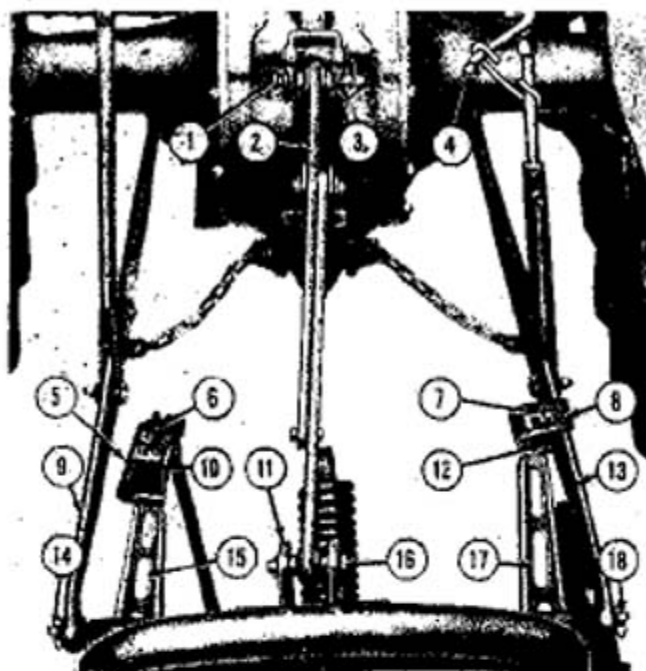
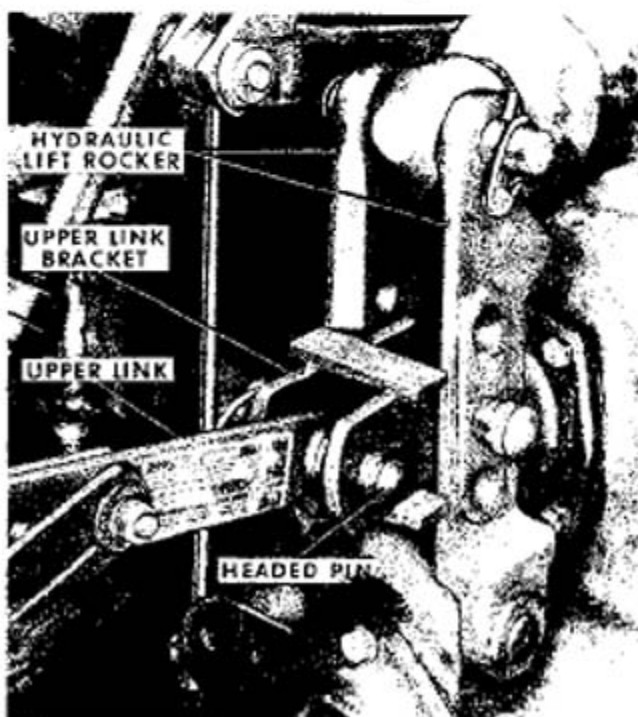
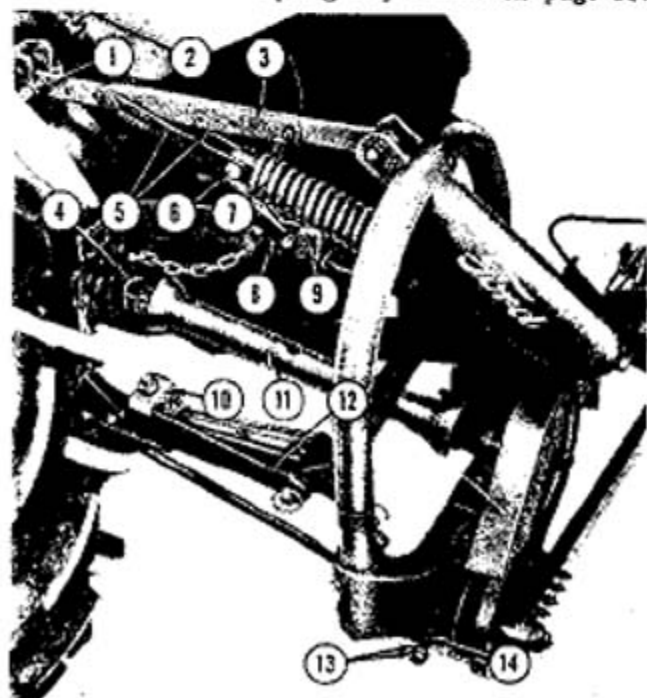
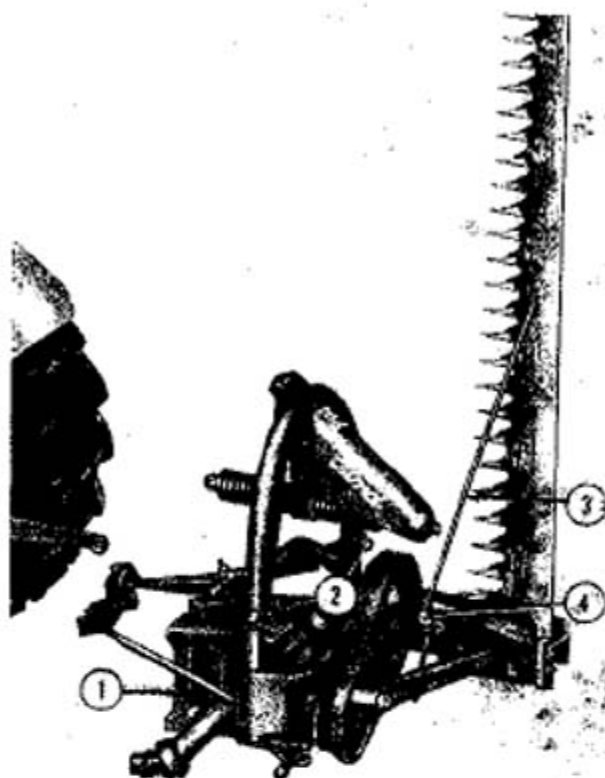

Figure 2
Figure 3
Figure 6
Figure 7
2. Back the tractor into position, as shown in Figure 2, and attach the tractor left lower link (9) to the lift link pin (14). Secure with the tractor link pin.
3. Roll the tractor and/or adjust the leveling crank (4), until the tractor right lower link (13) is aligned with the right link pin (18) and secure with the tractor link pin as shown.
4. Attach the upper link (2) to the lower hole in the tractor rocker arm with the link pin (1).
**NOTE:** When attaching the mower to Ford 4000 or Ford 5000 Tractors, an upper link bracket is required. Attach the upper link bracket to the tractor with the headed pin and 1/4" x 1-1/4" cotter pin provided. See Figure 3.
5. Start the tractor engine and raise the mower frame assembly just off the ground with the tractor hydraulic control lever and shift the mower to the left to attach the left stabilizer (15). Figure 2, when attaching the mower to Ford 2000 and 3000 Tractors. Position the stabilizer guide (5) under the tractor left lift link (9), set the clamp (10) over the top of the link (9) and tighten the nut (6) securely.
7. Shift the mower frame assembly to the right to attach the right stabilizer (17), Figure 2. Position the stabilizer guide (12) under the tractor right lift link (13), set the clamp (8) over the top of the link as shown, and tighten the nut (7) securely.
8. Raise the mower with the tractor hydraulic control lever and attach the mower lift spring (7), Figure 6, to the spring links (5) with the 3/4" x 1-7/8" headed pin (6) and linch pin provided. Lower the mower and turn off the tractor engine. See page 12 for lift spring adjustment.
9. Remove the tractor P.T.O. cup and attach the female splined end of the mower drive shaft (11) to the tractor P.T.O. shaft securing it with the snap coupler (4) on the yoke. See Figure 6.
10. Level the mower with the tractor leveling crank (2), Figure 6, so the lower frame is parallel to the ground. Secure the leveling crank to the lift rod with the leveling crank lock, as shown in Figure 2. Place the transport rod (3), Figure 7, in the clips (2) when not in use.
1. Disengage the tractor P.T.O. and raise the cutter bar by hand to the vertical position shown in Figure 7.
2. Insert the notched flat end of the transport rod (3), Figure 7, into the cutter bar and rotate the rod until the notch locks on the cutter bar. Adjust the position of the cutter bar and the transport rod to align the hooked end of the rod and the eye (4) on the lower frame.
1. Make sure the mower lower frame is parallel to the ground and adjust if necessary, with the tractor leveling crank (2), Figure 7. The tractor right lower link should be approximately three inches lower than the left lower link.
2. Raise the cutter bar to transport position and install the transport rod (3) as shown in Figure 7.
3. Detach the lift spring (7), Figure 6, from the links (5), by removing the pin (6) and pinch pin.
4. Depress the snap coupling (4) and detach the mower drive shaft (11) from the tractor.
5. Shut off the tractor engine, place a cement block (1), Figure 7, or other suitable block under the mower to support the mower in approximately the operating position and lower it onto the block.
6. Detach the right stabilizer (9), Figure 6, and the left stabilizer (10) from the tractor lower links by loosening the nuts on the clamps.
7. Detach the upper link (3) from the tractor hydraulic lift rocker (1), Figure 6.
8. Detach the tractor lower links (8) and (12), Figure 6, from the mower, start the tractor engine, and slowly drive the tractor clear of the mower.